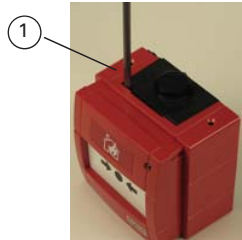

Fig. 3: FC421CP-I Removal
- 2 Place the edge of a large flat bladed screwdriver into the slot between the callpoint cover and the backbox (see item 1 in Fig 3).